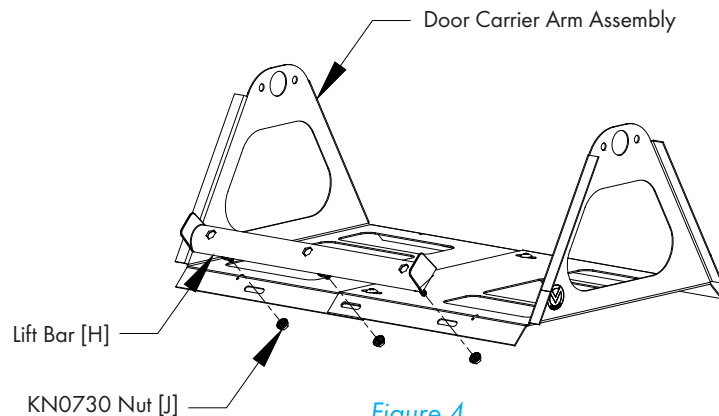

Figure 4
Attach Lift Bar [H] with (3) bolts to Carrier Arm Assembly using (3) KN0730 Nuts [J]. Lift Bar should be on the opposite side of the assembly as the Pull Bracket. See Figure 4.